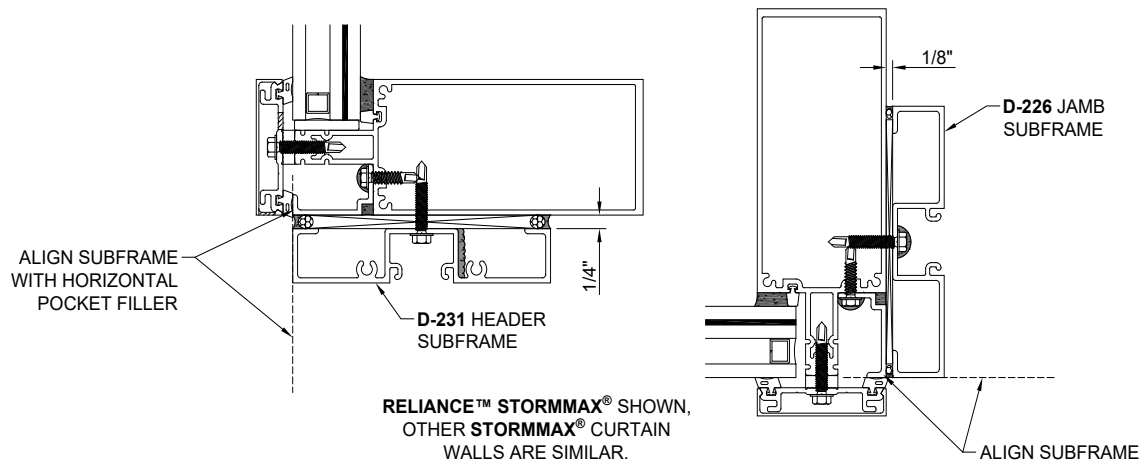

Figure 26: StormMax® Curtain Wall Subframe Alignment, Shimming and Sealing
- 9.4 Front of Jamb Subframe will be located flush with the leading edge of the framing system's Pocket Filler. Reference Figure 26 for alignment.
- 9.12 Seal the shim space both interior and exterior per Figure 26.